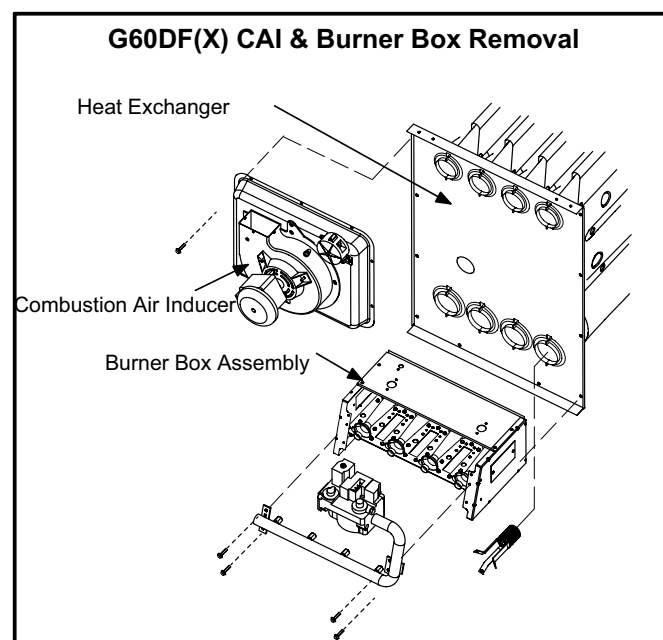

FIGURE 20
- 7 - Remove the four screws that secure the combustion air inducer. Carefully remove the combustion air inducer to avoid damaging the blower gasket. If the gasket is damaged, it must be replaced to prevent leakage. See figure 20.